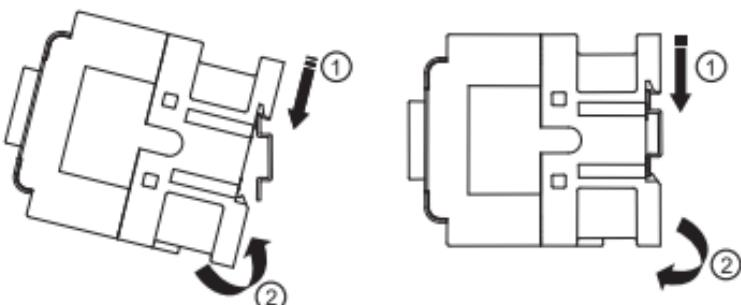

Figure 2 Installation and disassembly methods of HDC3-06 ~ 38
- The contactor can be installed through screw installation or DIN rail installation. HDC3-06 ~ 38 can be installed by means of 35mm standard DIN rail and HDC3-40 ~ 95 by means of 35mm or 75mm standard DIN rail. Check whether the rated voltage and frequency of the coil are consistent with the control power supply before installation and do not use the contactor in case of damage or unsecure assembly. See Figures 2 and 3 for the installation and disassembly methods.